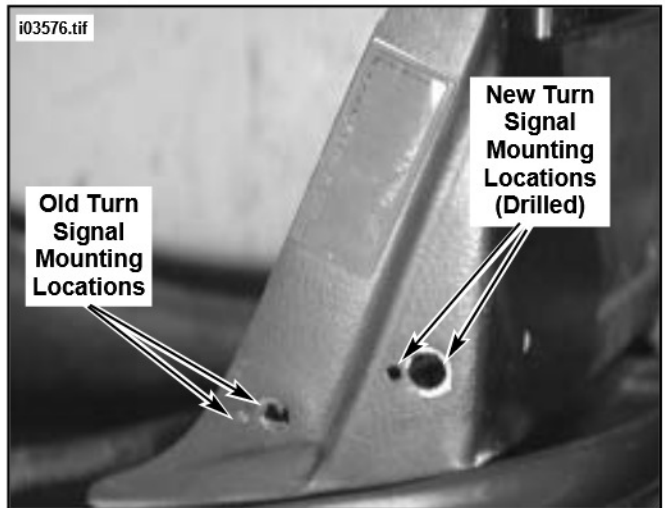

Figure 8. New Turn Signal Mounting Locations
- e. See Figure 8. Using a 1/2 .inch bit, carefully drill the larger hole into the license plate bracket at area marked in previous Step.